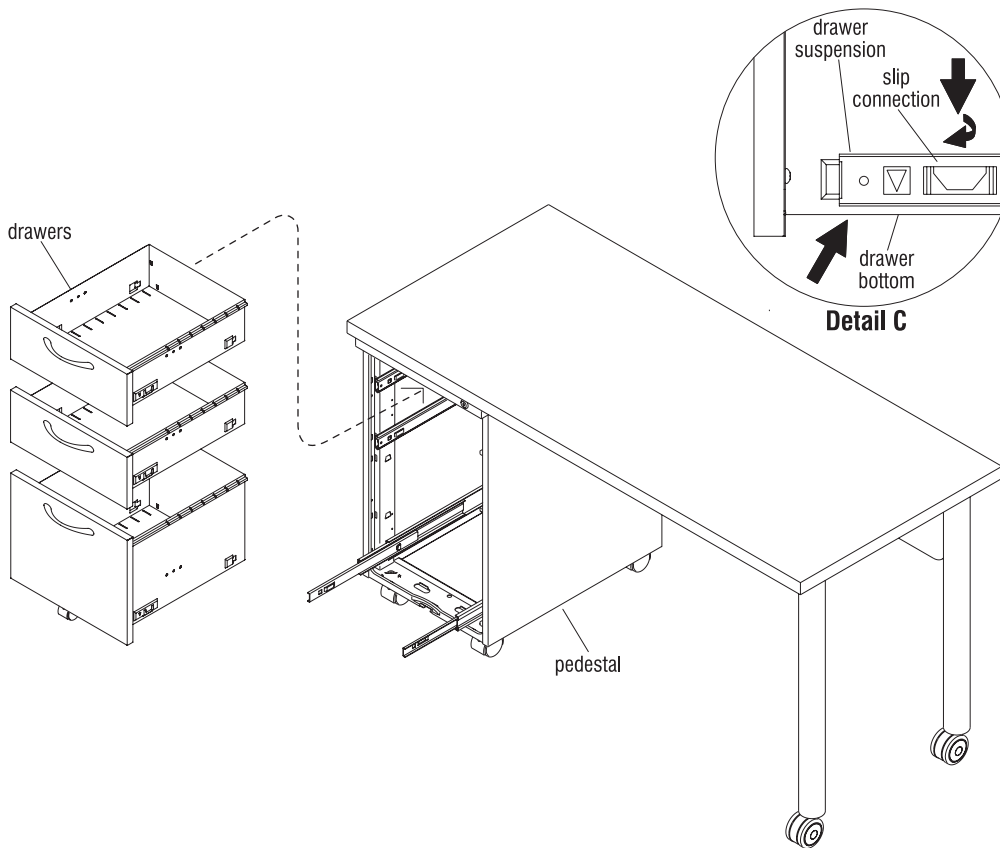

Figure 9
17. Using two people, carefully lift and rotate the desk right-side up and onto the casters (Figure 9).
18. Re-install drawer(s) one at a time by first extending suspension out of cabinet (Figure 9).
19. Slide the rear slip connection together by aligning the tab of the suspension with the corresponding slot in the drawer body. Hold suspension firmly while pushing the drawer, making sure the slip connection fits together properly (Figure 9 & Detail C).
20. If the rear slip connection is put in place correctly, the front connection tabs will align and the drawer can be pushed down into place. Secure drawer body into the front slip connection. Ensure the drawer is fully seated in the suspensions and the suspensions are fully seated in the shell (Figure 9 & Detail C).